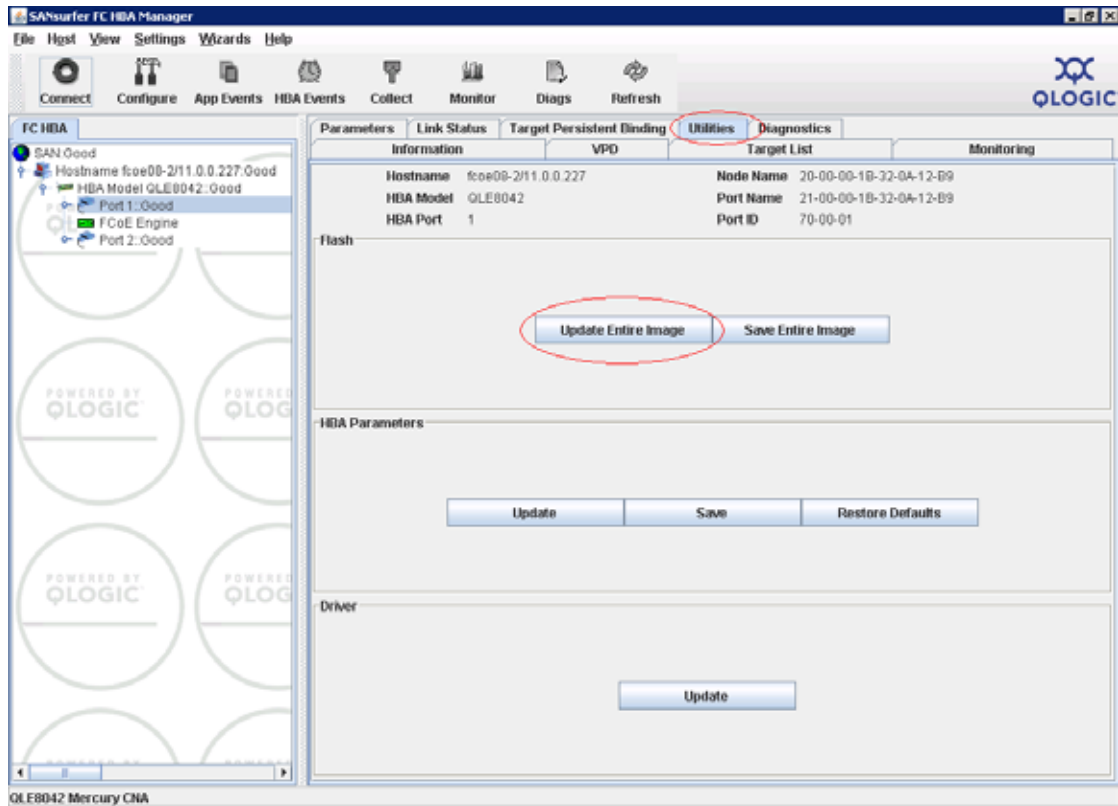

Figure 71 Utilities tab
3. Under the **Utilities** tab, shown in Figure 71, you will see several sections that allow you to update the CNA flash, HBA parameters, and the CNA driver. To update the Fibre Channel BIOS and firmware of the adapter, click **Update Entire Image**.